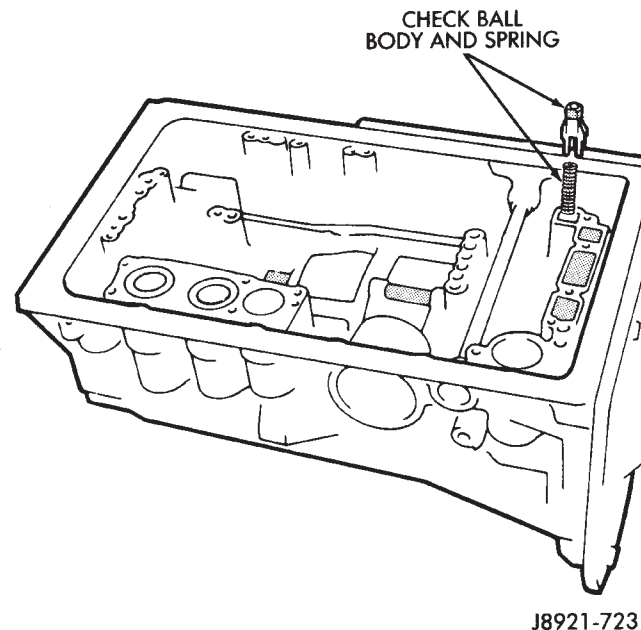

Fig. 58 Installing Check Ball Body And Spring
- (74) Install new check ball body and spring (Fig. 58).